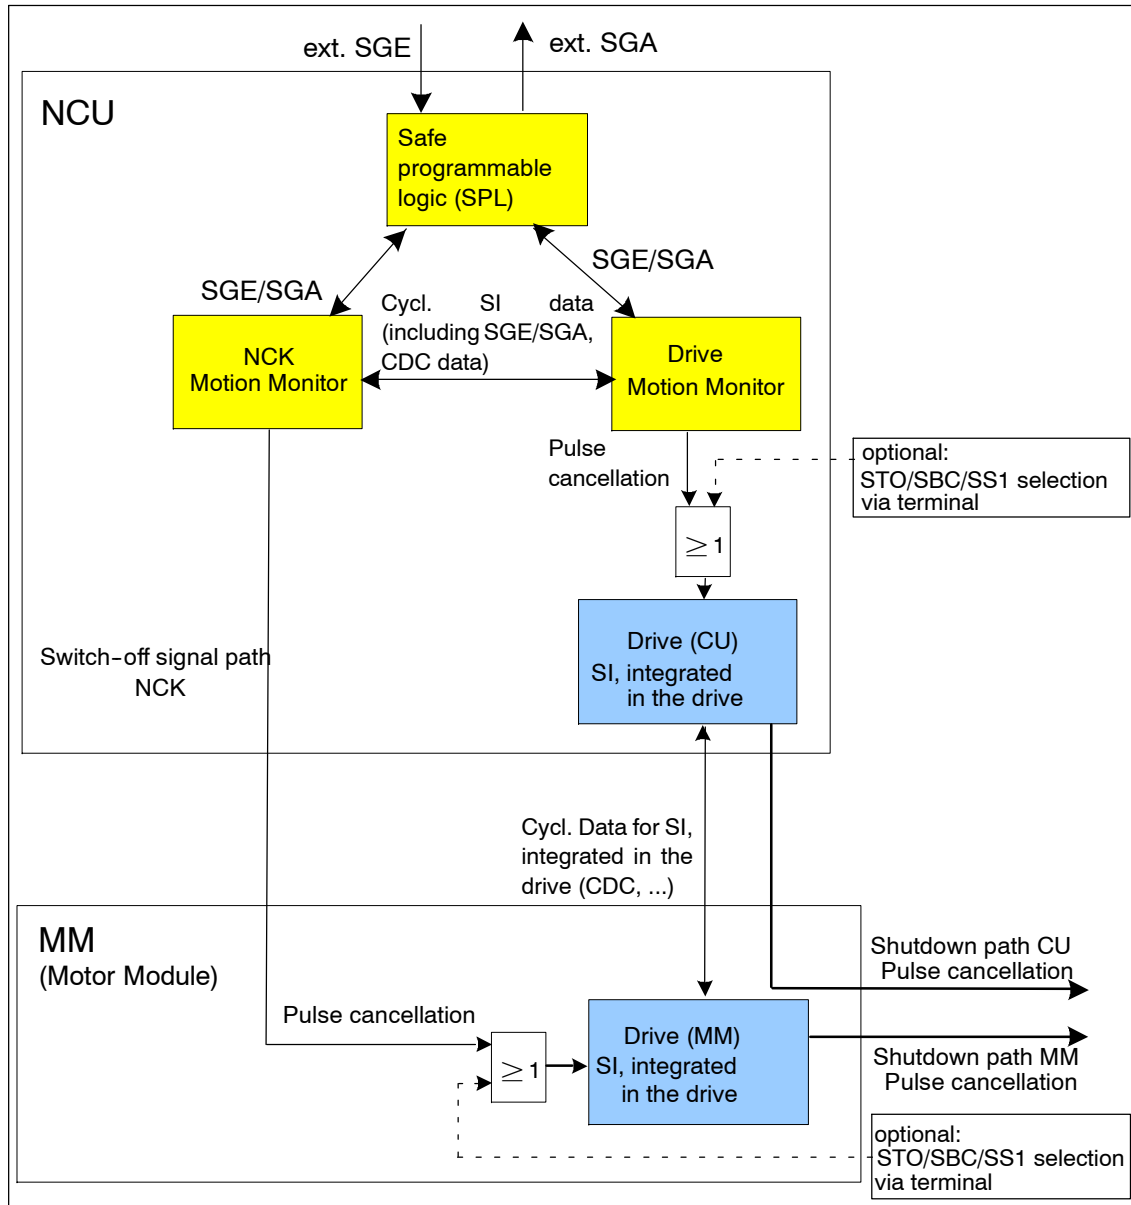

Fig. 6-1 Overview of the shutdown paths
This Chapter describes the safety function safe standstill (SH), controlled from the safety-related motion monitoring functions. The function is based on the safety functions STO/SBC of the drive (see Chapter 4). Fig. 6-1 shows the interrelationships.
The interaction of the safety functions integrated in the drive and the motion monitoring functions (Motion Monitor) are shown in Fig. 6-1.